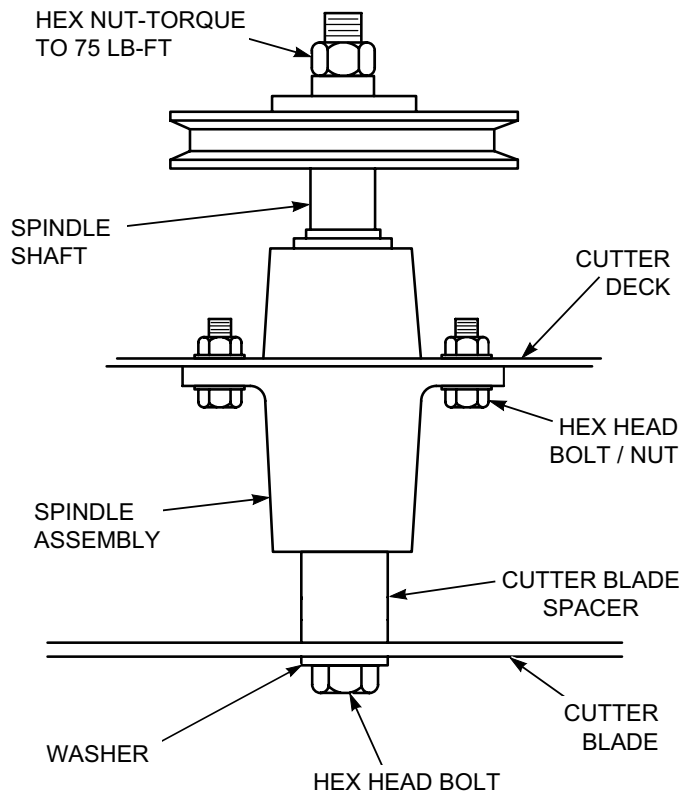

Figure 7-10. Blade Replacement
3. Secure the cutter blades to prevent them from rotating, (use the optional Blade Buddy tool P/N 9212, to assist in securing the cutter blades), remove the nut from the blade attaching bolt. Remove the cutter blade, bolt and spacer from the spindle shaft. See Figure 7-10.
6. Install the hex nut to the blade bolt at the top of the cutter spindle. Secure the blades from rotating and torque to 75 lb-ft. See Figure 7-10.